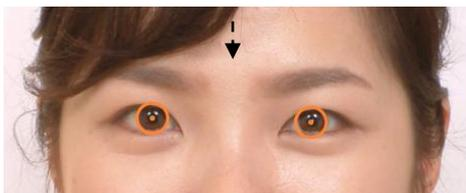

Fig. 238 Place the orange circles over the patient's pupils
To change the order, remove unnecessary or add custom landmark points, refer to Fig. 234 ( **Subsection: Settings**) for 2D, and Fig. 238 ( **Subsection: Landmark DB**) for 3D landmarks.
**Chart.** The  tool displays the analysis values calculated using the landmark points. OnDemand3D™ offers 'Dr.Cho's Analysis' by default. To add or remove analysis methods, please refer to Fig. 238 (Subsection: Landmark DB).